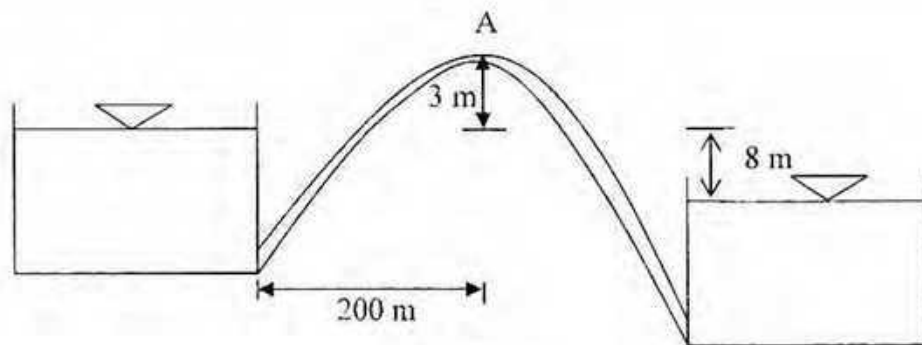

Figure 9
- b. A pipe of 1 m diameter connects two reservoirs having a difference of level of 8 m as shown in Figure 9. The total length of the pipe is 800 m and rises to a maximum height of 3 m above the level of water in the higher reservoir at a distance of 200 m from the entrance. Find the discharge in the pipe and the pressure at point A. Take  $f=0.04$ . 12